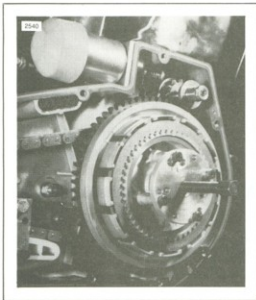

Figure 6-36. Pulling Clutch Hub Drum Assembly
4. See Figure 6-36. Attach the Harley-Davidson CLUTCH PULLER, Part No. HD-95960-52B to the clutch hub.